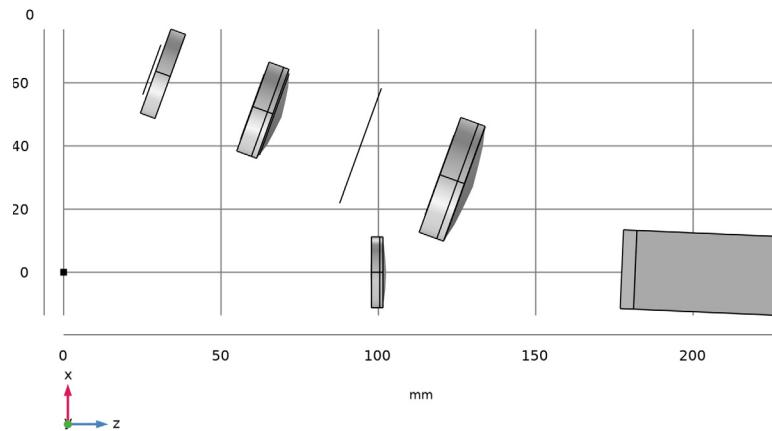

Figure 2: The Cross Grating Echelle Spectrograph geometry sequence.
After insertion, the geometry sequence should look like Figure 2. Note that the geometry is fully parameterized. Therefore, a change in the cross grating properties will cause the geometry to be updated.
- 8 Click the  **Zoom Extents** button in the **Graphics** toolbar. Orient the view to place the *z*-axis (optical axis) horizontal and the *y*-axis vertical. Compare the resulting geometry to Figure 2.